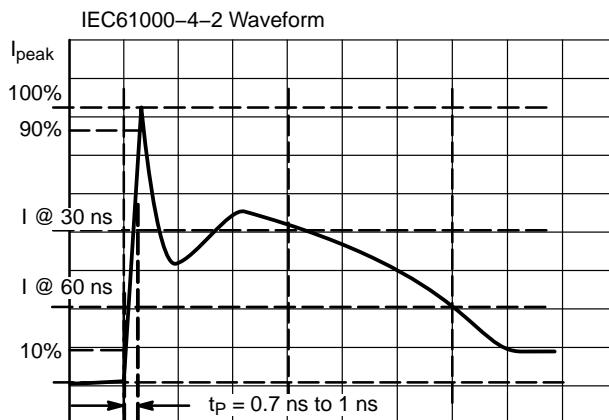

Figure 12. IEC61000-4-2 Spec
1. For test procedure see Figure 12 and application note AND8307/D.